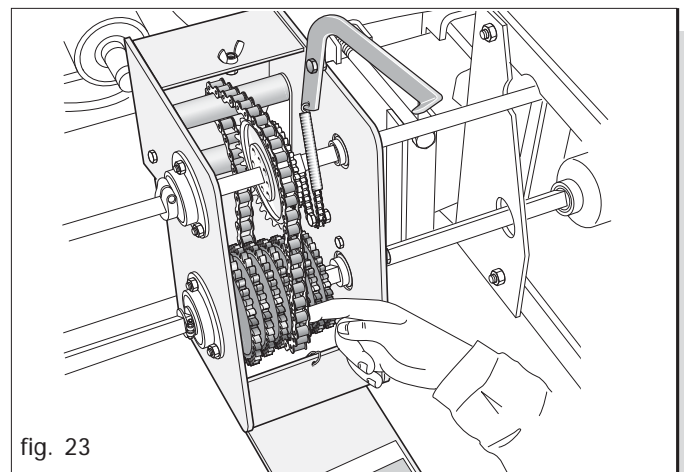

fig. 23
- Place the chain on the located gears and align them (Fig. 23).